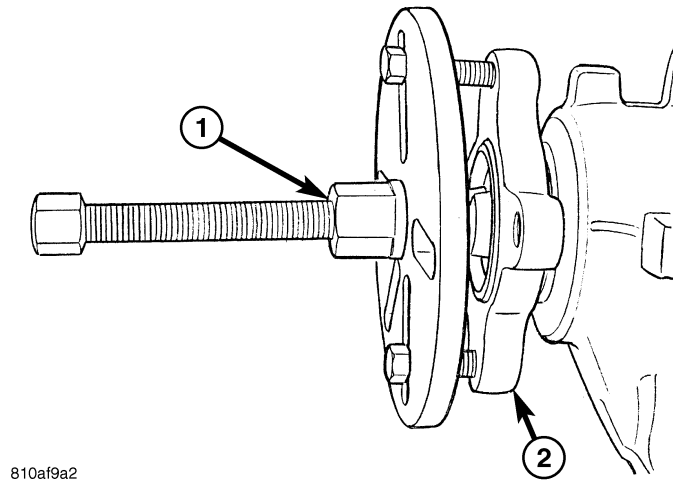

Fig. 1 FLANGE PULLER
2. Using Special tools C-3281 and 8992, remove the transmission output shaft nut and remove the flange(Fig. 1).